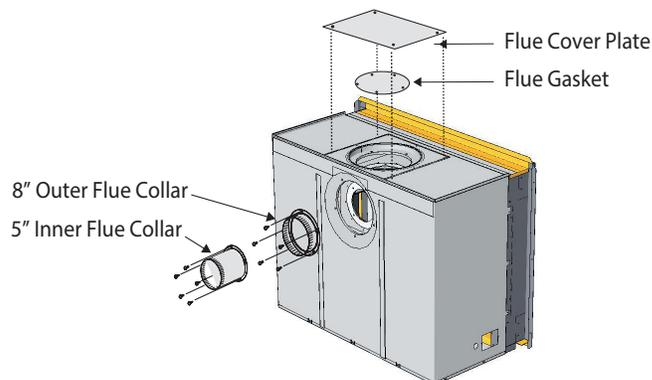

Figure 9a. *Flue cover and collar installation, Rear Vented fireplace.*
3. Install the (removed) Rear flue cover and gasket material, to the Top vent outlet. Fasten the cover with included hardware, as illustrated Figure 9a.
4. Install the (5" and 8") collars to the rear vent outlet using the included hardware, as illustrated Figure 9a.